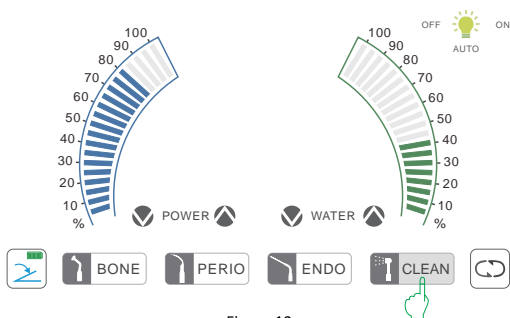

Figure 12
- 3. Adjust the mode to the cleaning function (see Figure 12);